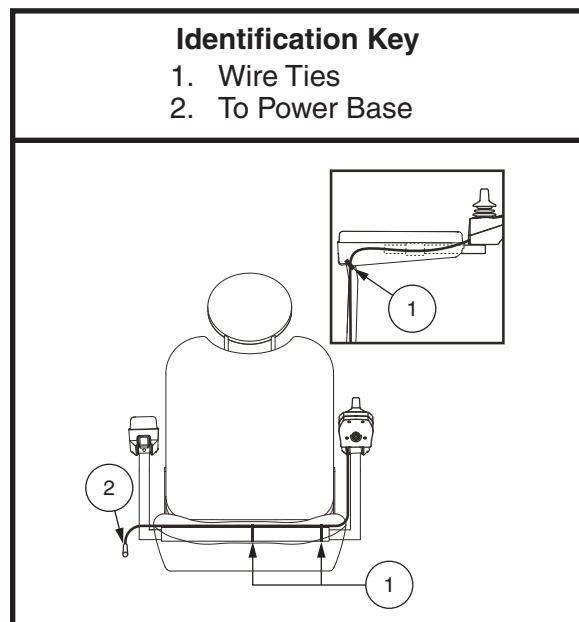

Figure 8. Controller Harness Routing on a Contour Seat
4. Install the controller and route the harness to the back of the power base. **See figure 8.**
6. Secure the controller harness to the armrest receiver with wire ties. **See figure 8.**